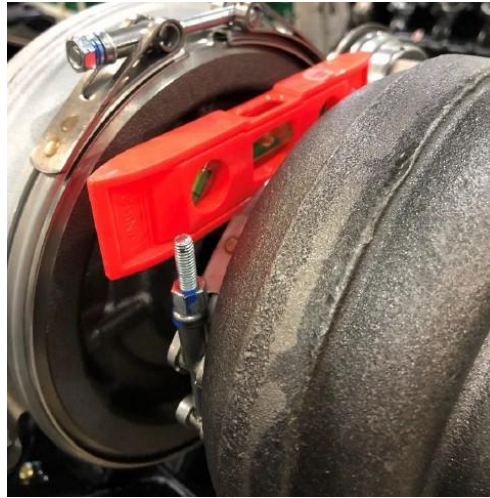

Figure 23. Oil Inlet Leveling
5. Level the oil inlet on both turbos using a level. (Refer to Figure 23.)